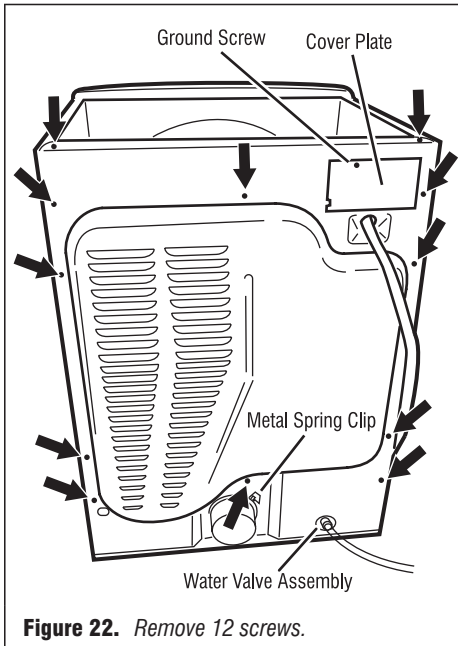

Figure 22. Remove 12 screws.
4. Remove the metal spring clip between the back panel and the exhaust outlet. See figure 22.
5. Remove the ten screws on the rear, and two screws on the top of the back panel. Pull the back panel off the dryer. See figure 22.